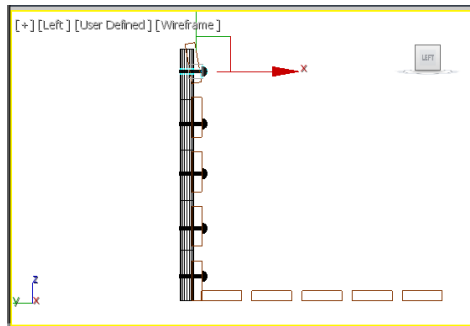

Figure 2-82 Alignment of rivets in the Left viewport
4. In the Left viewport, select *rivet001* using the **Select and Move** tool and move the cursor over the vertical axis. Now, create 4 copies of *rivet001*. These copies are automatically named as *rivet002*, *rivet003*, *rivet004*, and *rivet005*. Align them in the Left viewport, refer to Figure 2-82.